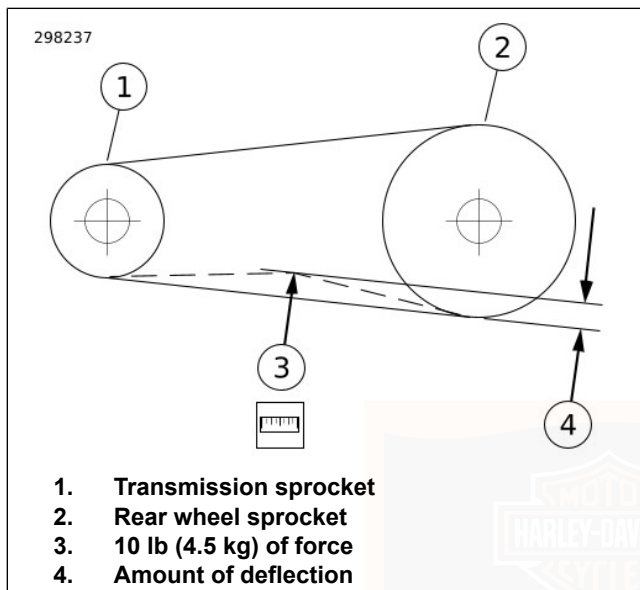

Figure 99. Checking Belt Deflection
- b. **All other models:** See Figure 99. Measure amount of deflection (4) while holding gauge steady.